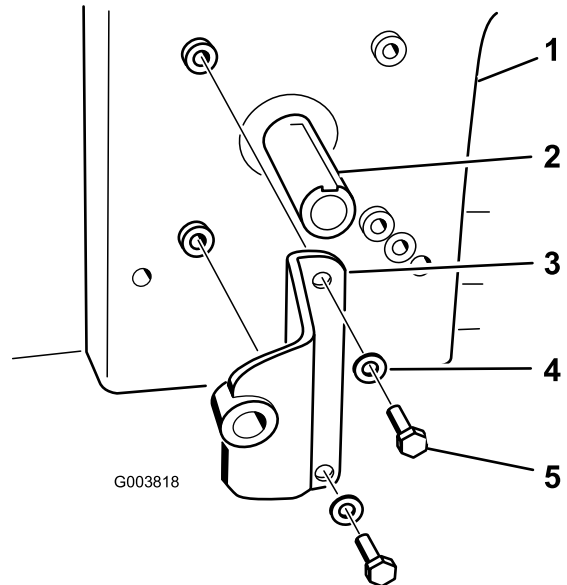

Figure 18
4. Install the pump bracket to the engine with 2 bolts (5/16 x 3/4 inch) and 2 washers (3/8 inch). Refer to Figure 18 for the correct position to install the pump bracket.